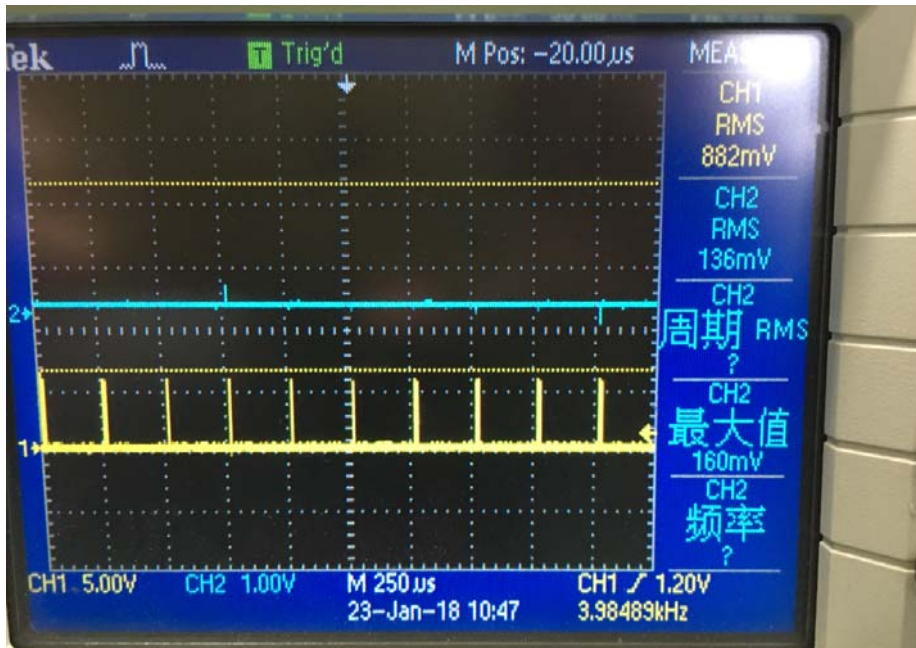

Fig1.1.3d The oscilloscope display of output voltage2+
1.1.3d CH1 is 0.3V , and CH2 is 0.136V,See Fig1.1.3d.